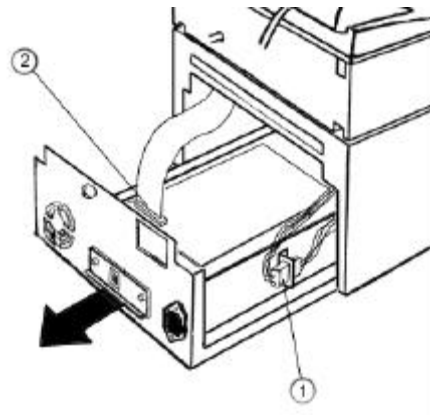

fig. 4.9
- 3) gently pull the sliding tray out for half of its length, grabbing the NC lower edge (see figure 4.9).
- 4) disconnect the connectors ① and ② (power and data lines connectors). shown in figure 4.9
- ① Power Supply (PSU)
- ② ON/OFF Switch
- ③ Metal Shield
- ④ Power Line Connector (same as ① in figure 4.9)
- ⑤ Power Inlet Filter
- ⑥ Hard Disk (HD)
- ⑦ Hard Disk Support (HDS)
- ⑧ Hard Disk Power Connector (HDPC)
- ⑨ Hard Disk Data Connector (hard disk side) (HDDC)
- ⑩ Hard Disk-Data Connector (PCA side)
- ⑪ Fan
- ⑫ Fan Cables and Connector
- ⑬ Data-Line Connector (same as ②, figure 4.9) (DLC)
- ⑭ Printed Circuit Assembly (PCA)
- ⑮ PCA Power Connector (PPC)